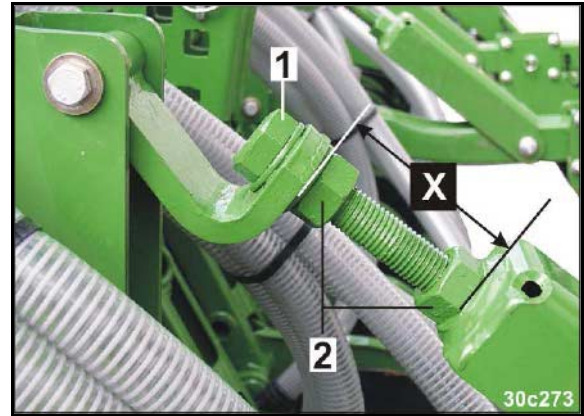

Fig. 91
The roller pressure is adjusted by changing the distance "X" (Fig. 91) on all segments by means of the screw (Fig. 91/1).
3. Release two lock nuts (Fig. 91/2).
5. Firmly tighten the lock nuts (Fig. 91/2).